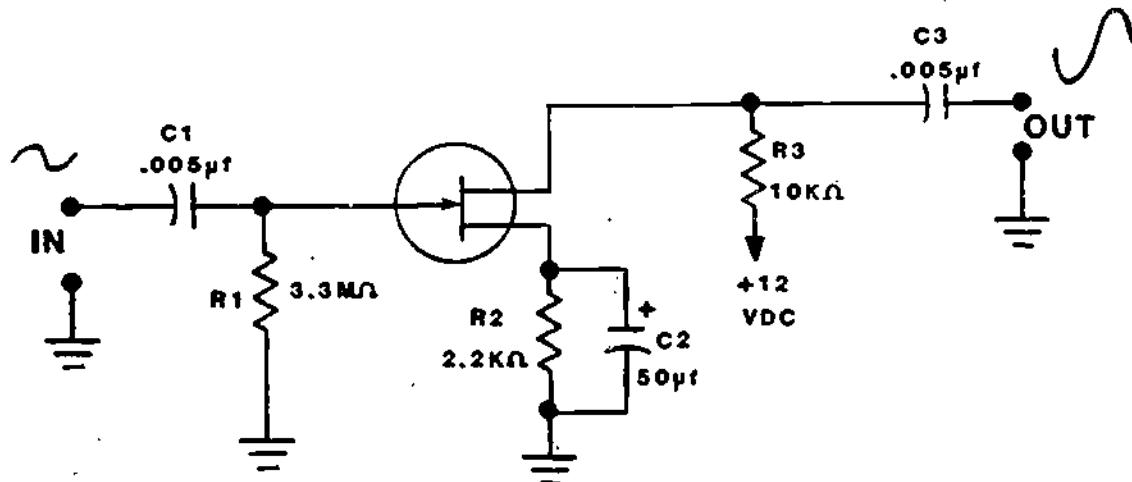

Figure 11
12) Figure 11 shows an amplifier circuit, using an N-channel JFET.
In Figure 11, source self-bias for the JFET is provided by components _____ and _____.